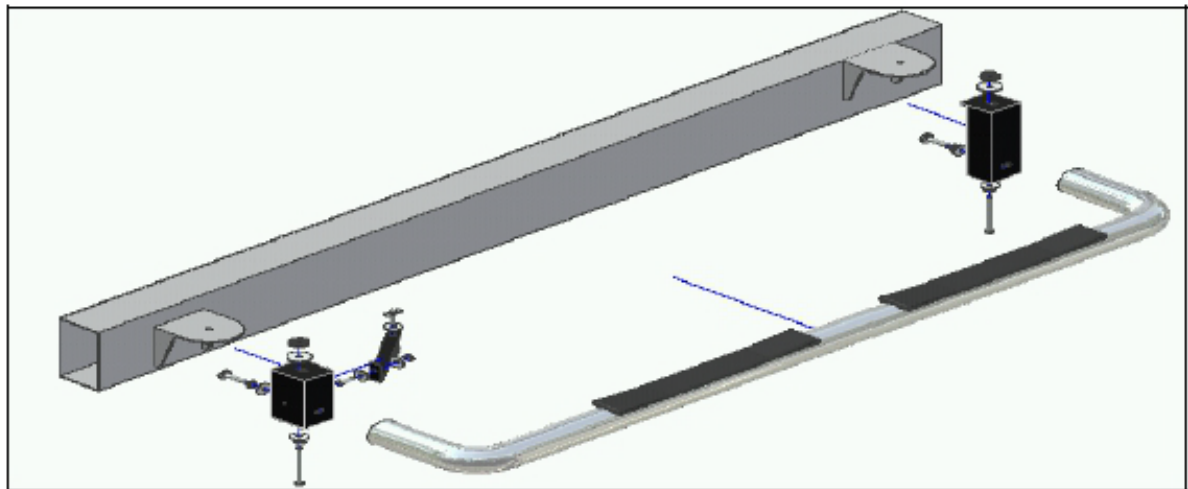

Figure 1.3 –Driver-Side Front Assembly View (2500/3500 Series set-up shown)
(see Figure 1.3), re-using isolator, but replacing factory bolt with (1) M12 – 1.75 x 120mm bolt, (1) 12mm lock washer, and (1) 12mm flat washer. Snug but do not tighten hardware at this time.